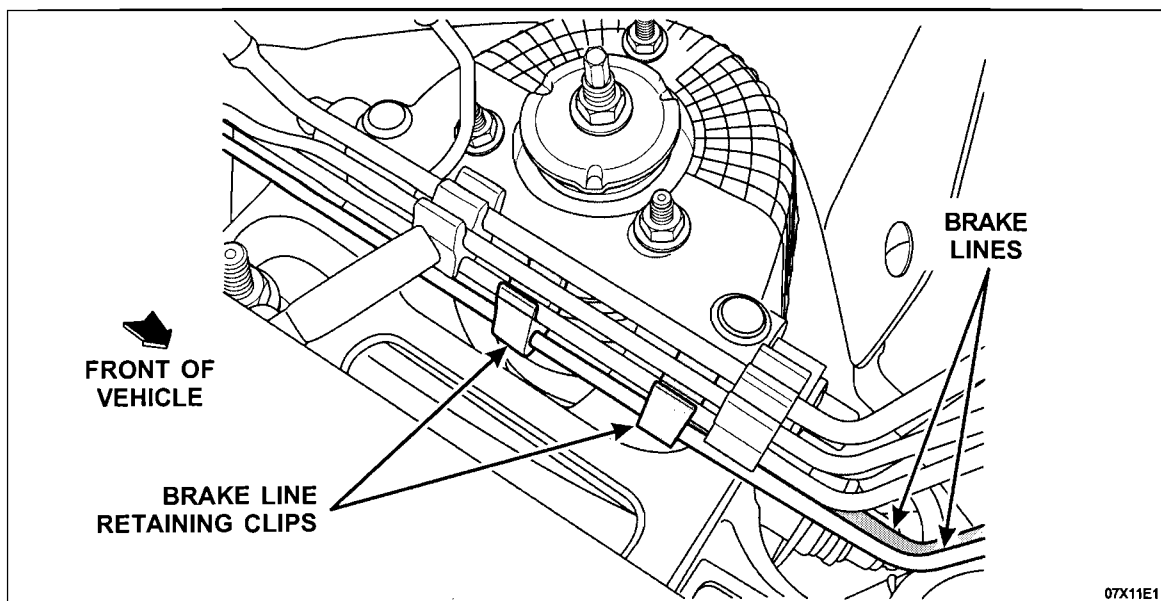

FIGURE 5
3. Disengage the brake lines from the brake line retaining clips. See Figure 5.